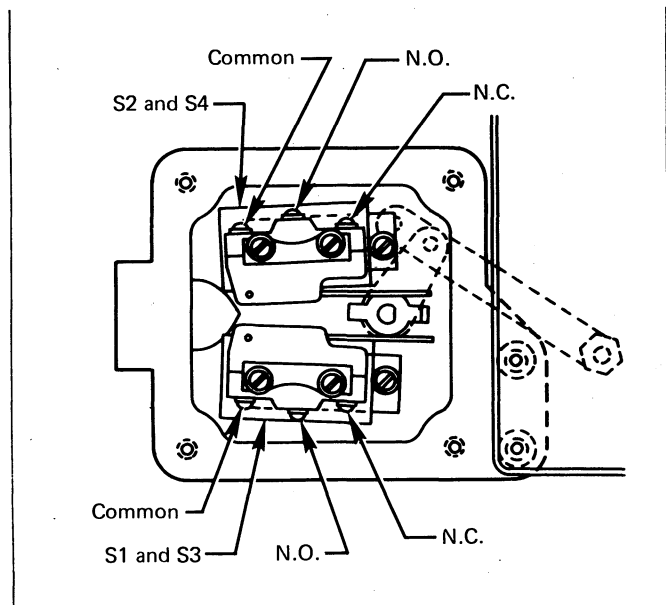

Figure 4. Switch Contacts.
1. Switches are SPDT, with capacity of 115 VAC or 230 VAC, 50/50 Hz, at 15 amperes; 125 VAC, at 1/2 ampere; 250 VDC, at 1/4 ampere. Each terminal is identified by markings on the switch body (see Figure 4). Use wires of 12 AWG maximum.